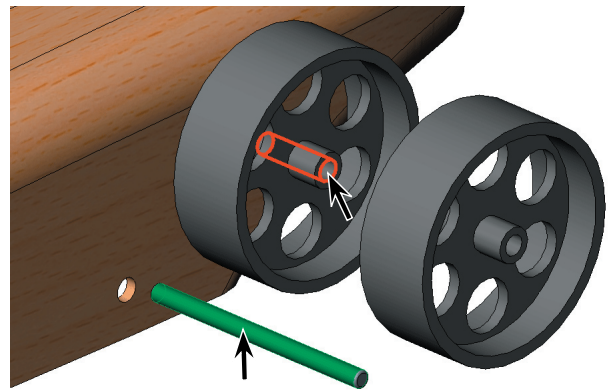

Fig. 10
Step 4. Click **cylindrical face of axle** and **cylindrical inside face of the hole in a wheel**, **Fig. 10**.